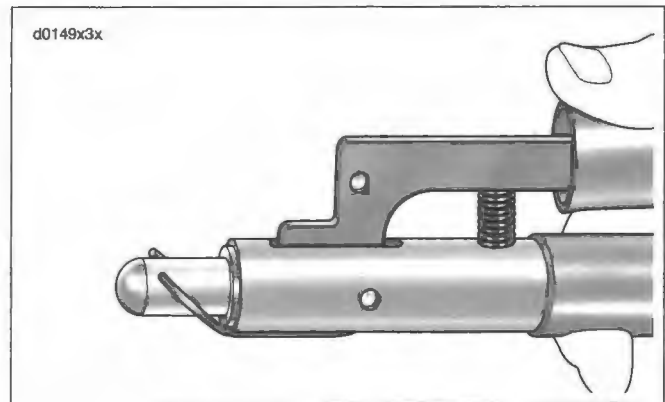

Figure 3-30. Aligning Circlip
- a. See Figure 3-30. Slide circlip down nose of tool until it contacts claw. Lightly squeeze handles of tool to capture circlip in claw.